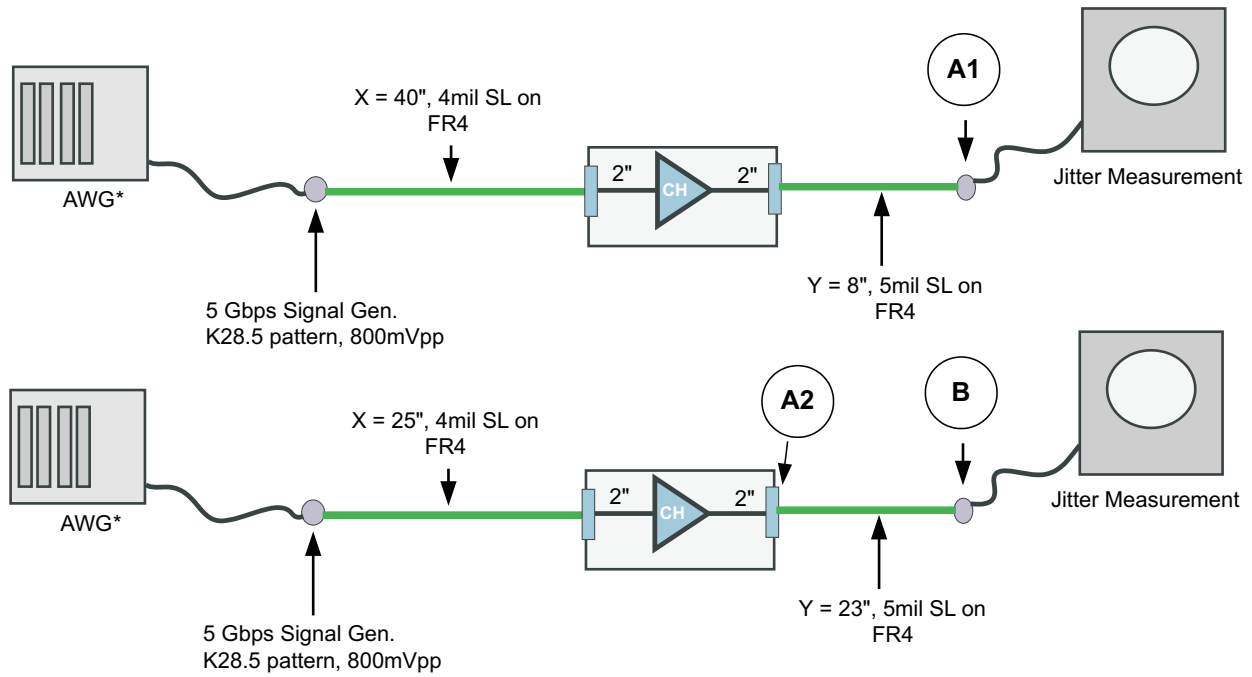

Figure 8. Jitter Measurement Setup
(1) Refer to Figure 8 with ±K28.5 pattern, -3.5dB DE from source AWG